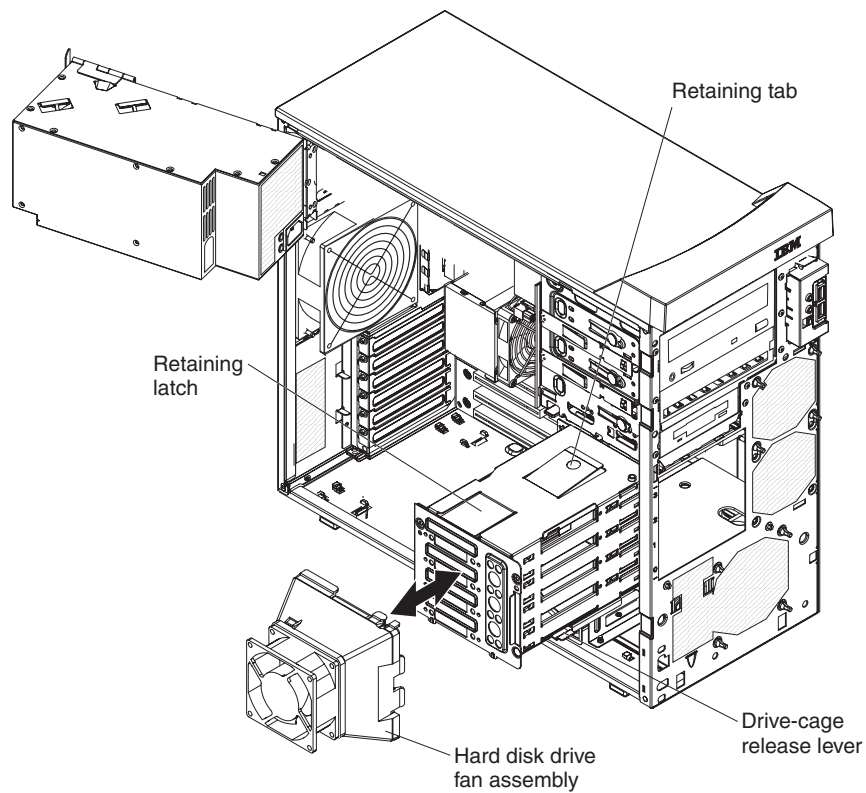

Figure 34. Installing the hard disk drive fan assembly
2. Insert the fan-assembly retaining tabs into the corresponding slots in the drive cage; then, press the fan assembly onto the drive cage (see Figure 34).